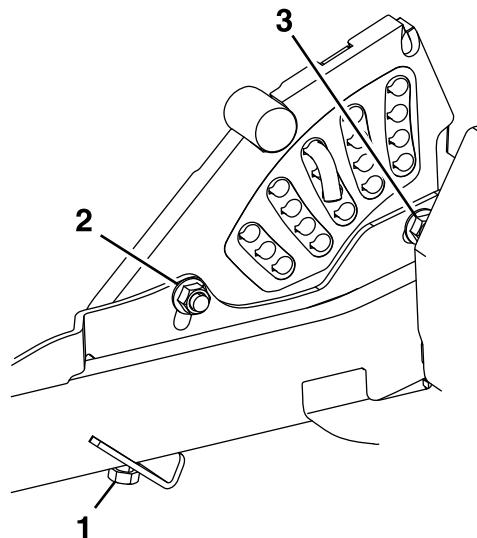

Figure 86
13. If the 4 deck adjusters do not have enough adjustment to achieve the accurate height of cut with the desired rake, you can adjust the single-point system (Figure 86).
- 14. To adjust the single-point system, first loosen the front and rear height-of-cut plate mounting bolts (Figure 86).
- 16. Tighten the 2 bolts at the bottom of the height-of-cut plate (Figure 86).